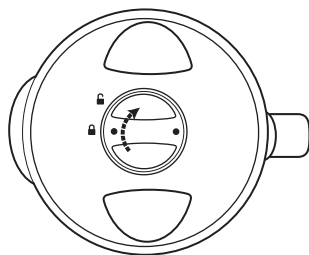

Figure 8
6. Add ingredients to the Glass Blending Jar and secure the Blending Jar Lid. Make sure that the Blending Jar spout is perfectly aligned with the spout cover on the Lid; the tab at the back of the Lid lines up with the Blending Jar Handle. Insert Lid Cap into the hole in the Lid and following the icons on the top of the Lid, turn counter-clockwise to lock into position. (See Figure 8.)
- After the blending process has begun, you may slowly add up to an additional 1 cup of hot ingredients through the center hole in the Lid. (See Figure 8.)